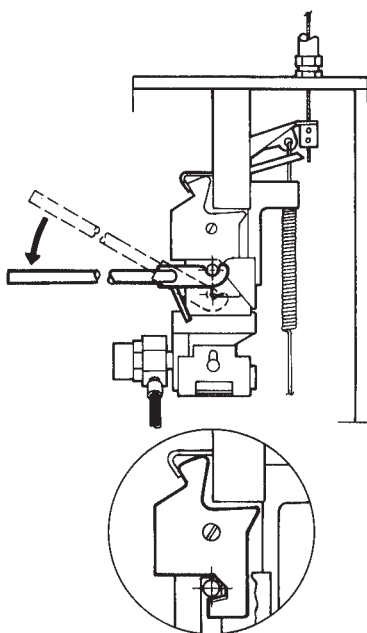

FIGURE 4
16. Cock the regulated release mechanism using cocking lever (Part No. 14995). See Figure 4.